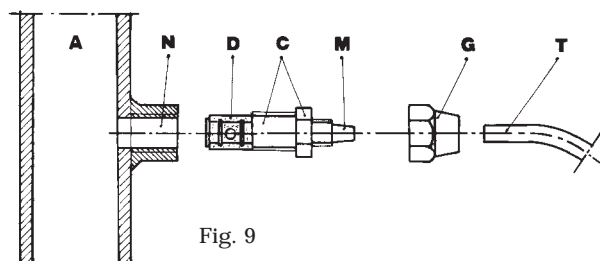

Fig. 9
- g. - Select the most appropriate injection point on a pipe of the plant to be treated and there fit a 3/8" female steel gas thread connector (similar to BSPm). This connector is not supplied with the pump. Screw the injection valve to the gas connector, inserting a gasket as shown in Fig. 9. Then connect the discharge hose to the conical connector on the injection valve and fix it with the supplied tube nut G. The injection valve also acts as no return valve by means of a cylinder sleeve (elastomer, standard supplied in Viton).
#### DIAGRAM Fig. 9